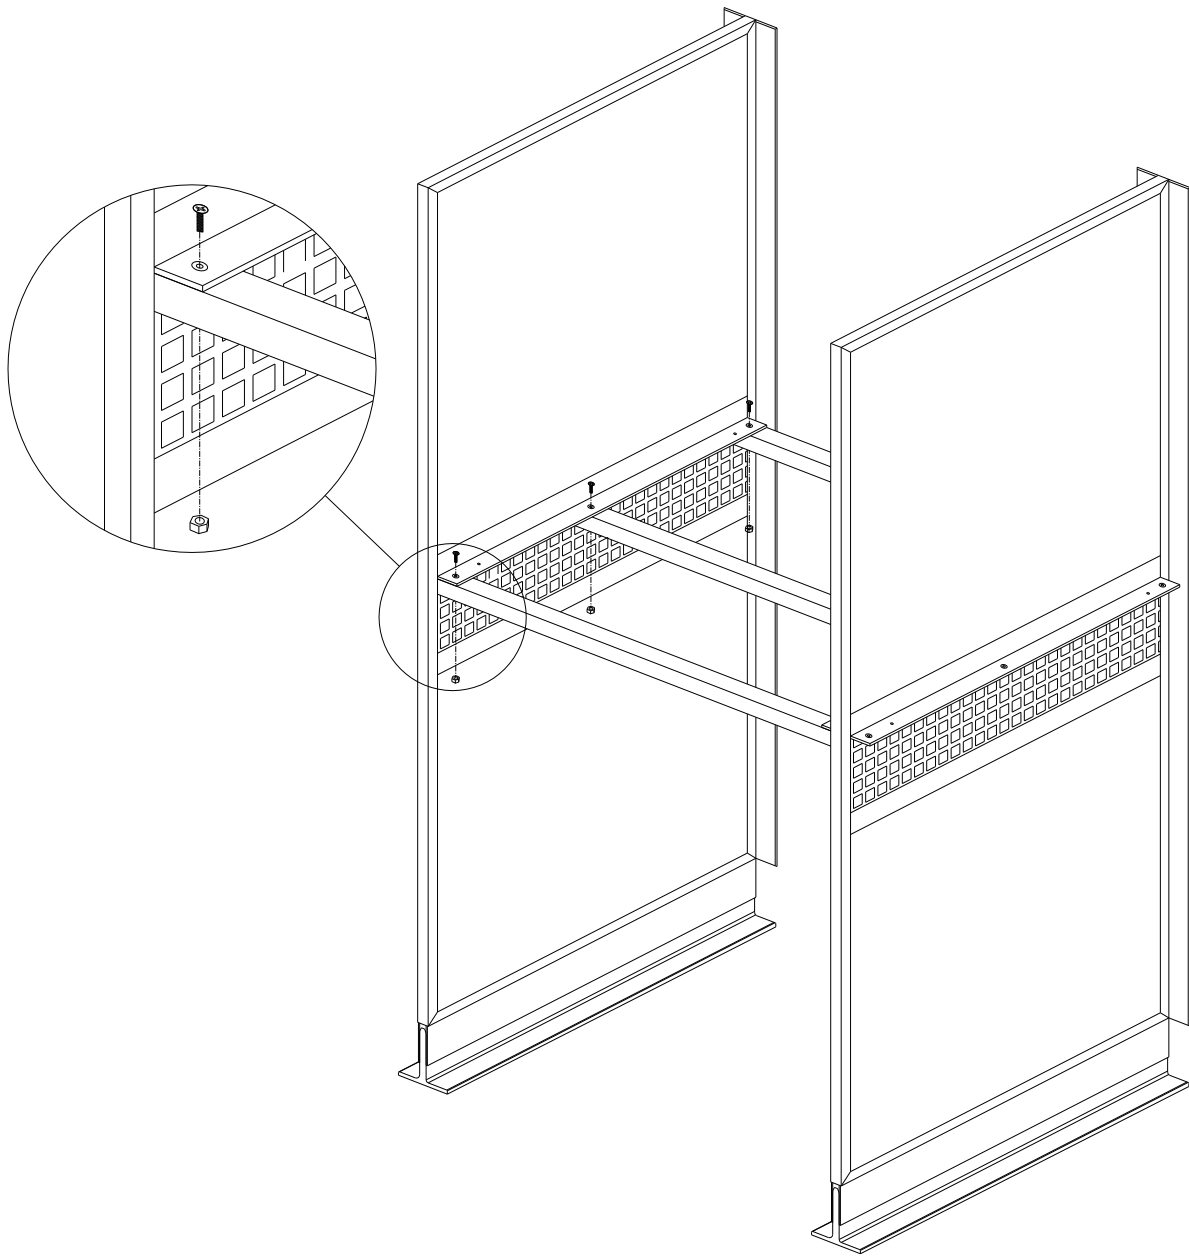

Figure 7
3. Repeat step D-2 for all screw locations shown on Figure 7 for both division panels.
1. Attach the aluminum angle floor supports across the run using the 1/4-20 x 5/8" UNC flat head machine screws and 1/4-20 Nyloc nuts. Align the holes in the floor supports with the pre-drilled and countersunk holes in the appropriate flange in the division panels and fasten. **Before tightening the fasteners take care to ensure that the spacing between division panels is correct, this cannot be adjusted later without removing the floor!** Note the flat head of the screw should be on the top side of the flange so that the floor sits on the division panel supports. See figure 7.